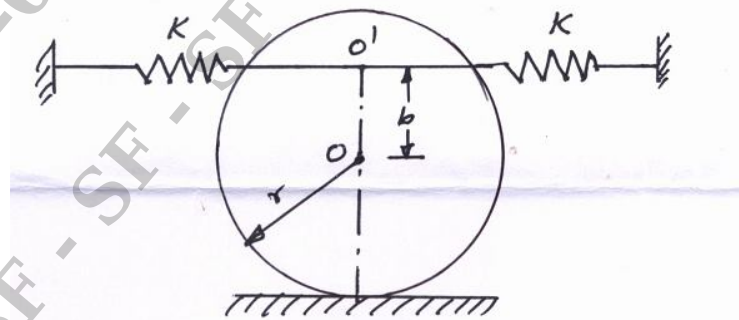

Fig. Q8 (b)
- b. Find the natural frequency of the system as shown in Fig. Q8 (b). Solve by energy method. **(08 Marks)**